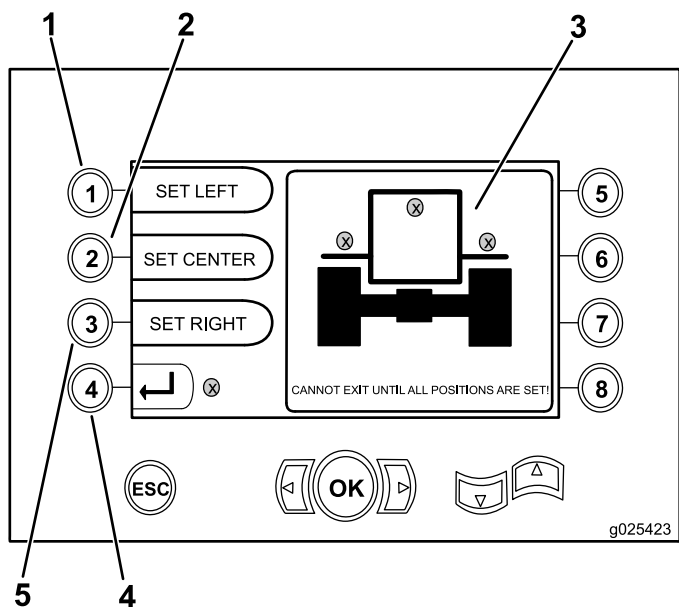

Figure 8
The Autotilt Setup Screen displays (Figure 8).
7. Press button 1 to select Set Left (Figure 8) and wait until the left indicator light turns green (approximately 10 seconds).
9. Press button 2 to select Set Center (Figure 8) and wait until the center indicator light turns green (approximately 10 seconds).
11. Press and hold button 3 to select Set Right (Figure 8) and wait until the right indicator light turns green (approximately 10 seconds).
13. Press 4 to select Exit when the indicator light next to the Exit button turns green (Figure 8).